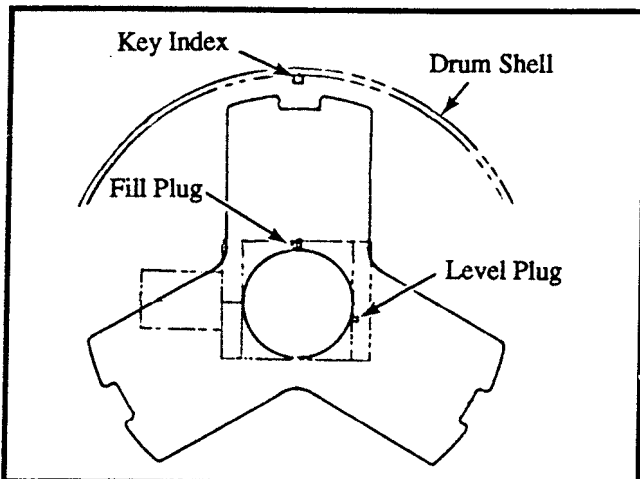

Figure 12-11. Torque Hub Plugs
5. After the oil has completely drained, position the torque hub so that one of the ports is in the 12 o'clock position. Refer to Figure 12-11.